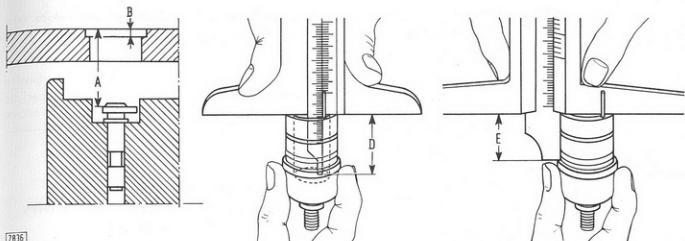

Fig. 61 - Dimensions A, B, D and E for Shut-off Spring Preload Adjustment
Thickness of shims (S) which determines the preload of spring (69, Fig. 64) fitted to the end of shuttle (70) is obtained as described below. Take measurements (A, B, D and E, Fig. 61), subtract $A - B = C$ and $D - E = F$, and sum $C + F = G$.